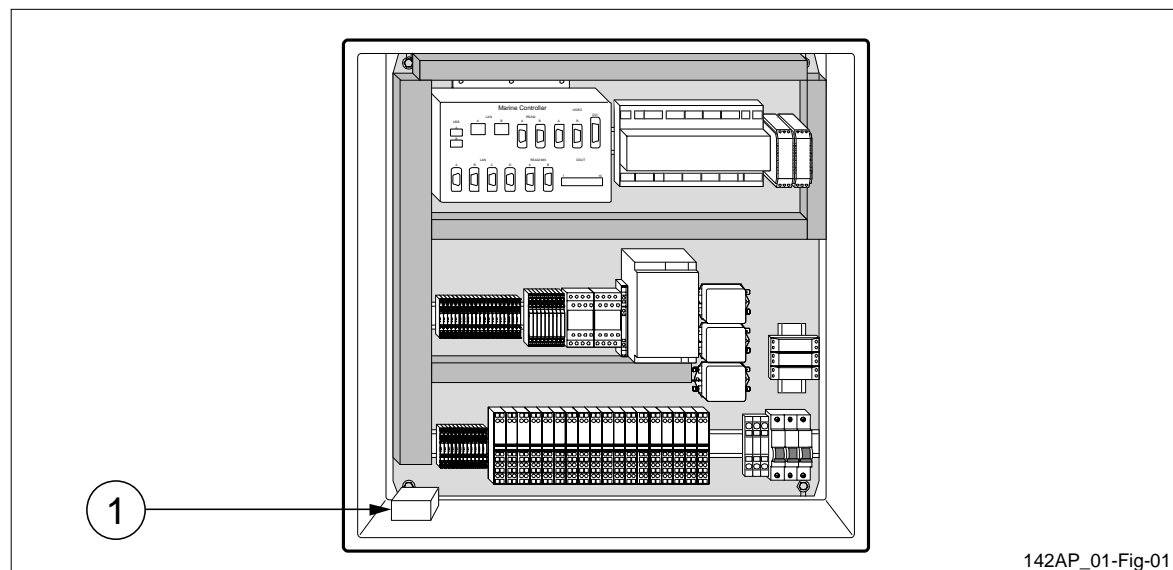

Figure 12 Bistable relay in an HPP unit cabinet.
1. Open the cabinet and make sure the incoming power is interrupted, for example, by setting the automatic fuse (see position 2 in figure 12) to position OFF.